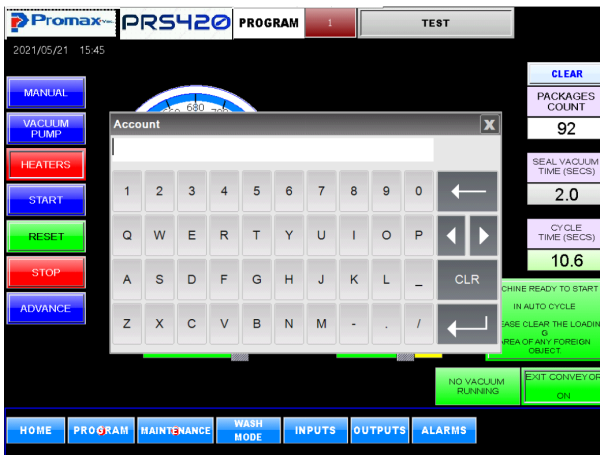

Fig.OP-5.24
-Enter the proper account number and password the push the OK button. (Fig. OP-5.24)